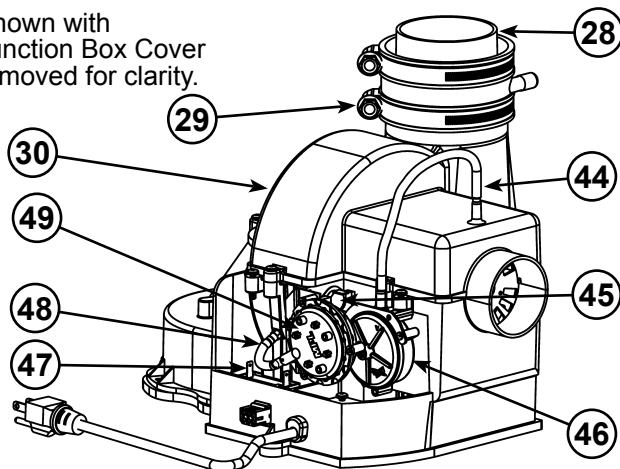

Figure 5
| 8 T&P Valve   | 25 Baffle Assembly   | 44 Air Tubing (Intake) (see Figure 5)                           |
| 9 * Discharge Pipe  | 26 Hot-Water Outlet Nipple/Anode   | 45 Blower High Limit Switch (see Figure 5)                      |
| 10 **Combo Heating System Return Inlet (Optional)                       | 27 *Inlet Water Shut-off Valve   | 46 Intake Air Pressure Switch (NC) (inside box) (see Figure 5)  |
| 11 Gas Control Valve/Thermostat (Honeywell)                             | 28 ****Rubber Coupling (see Figure 5)  | 47 Capacitor (see Figure 5)                                     |
| 12 Gas Valve Electronic Control Module And Cover (Honeywell)            | 29 Gear Clamp (see Figure 5)   | 48 Air Tubing (Exhaust) (see Figure 5)                          |
| 13 Drain Valve  | 30 ***Blower with Power Cord (see Figure 5)  | 49 Exhaust Air Pressure Switch (NO) (inside box) (see Figure 5) |
This device is located on the blower (see Figure 5, item 45) and limits the maximum temperature of the blower. If the blower temperature rises above the temperature setting, the switch opens causing the heater to shut down. The switch will auto reset once the temperature drops sufficiently.
The blower/heater is equipped with two air pressure switches located in the junction box (see Figure 5, item 46 and item 49). These devices are connected in series and monitor the air pressure produced by the blower. In the event that the exhaust venting becomes blocked or sufficiently restricted, the normally open (NO) air pressure switch will shut down the heater. In the event that the intake pipe becomes sufficiently blocked or restricted, the normally closed (NC) air pressure switch will shut down the heater.